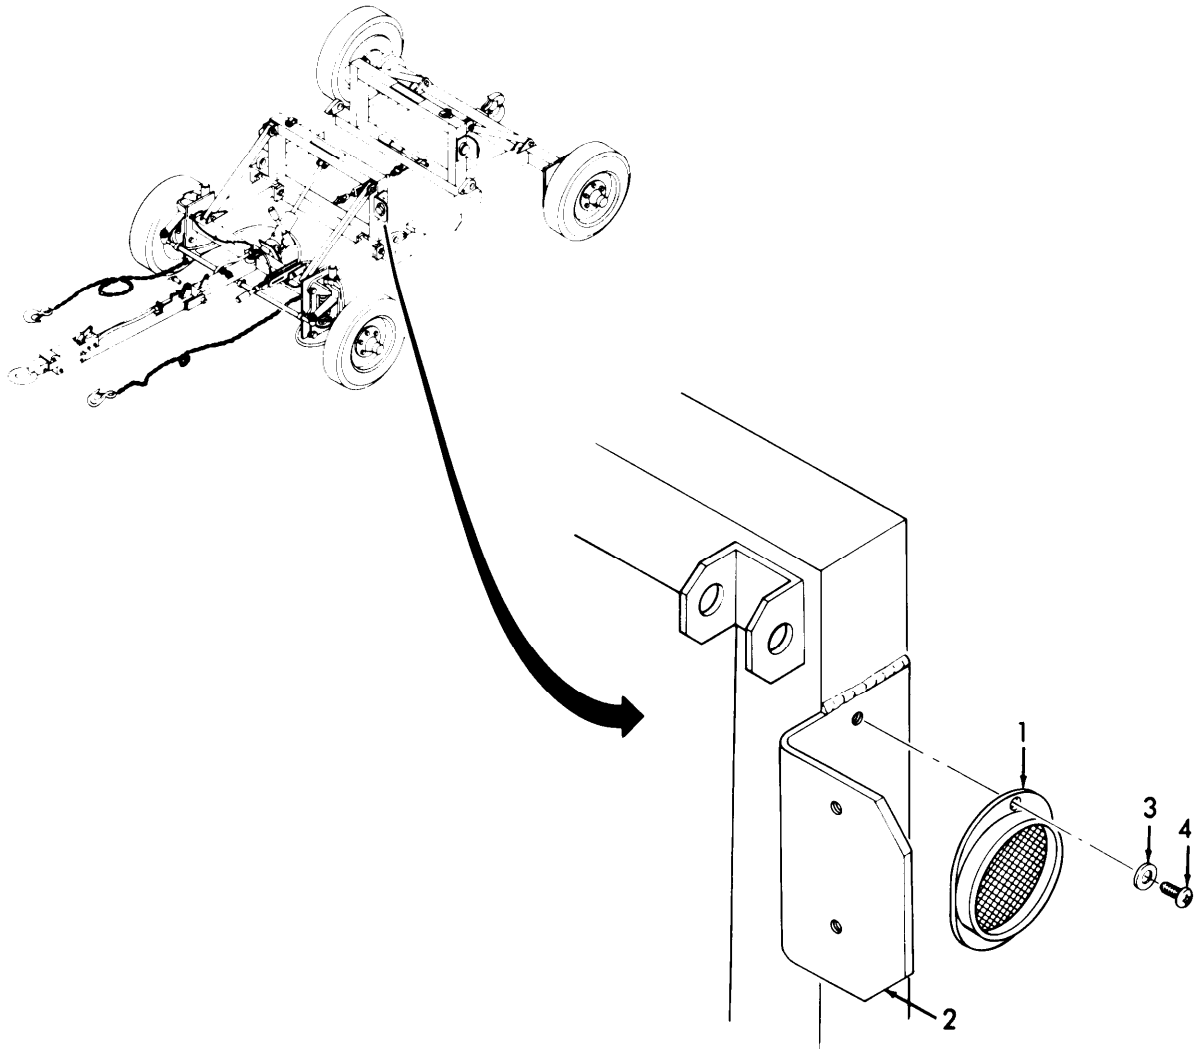

Figure 3-14. Reflector, Installation.
Install reflector (1, Figure 3-14) to reflector bracket (2) with two lockwashers (3) and two screws (4).